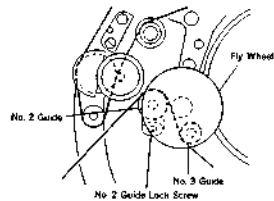

Fig. 1
- (1) Remove the Fly Wheel referring to Section 7-2-1.
- (2) Loosen the No. 2 Guide Lock Screw and turn the No. 2 and No. 3 Guides counterclockwise to free the tape path at the entrance side. (Fig. 1 and 2)